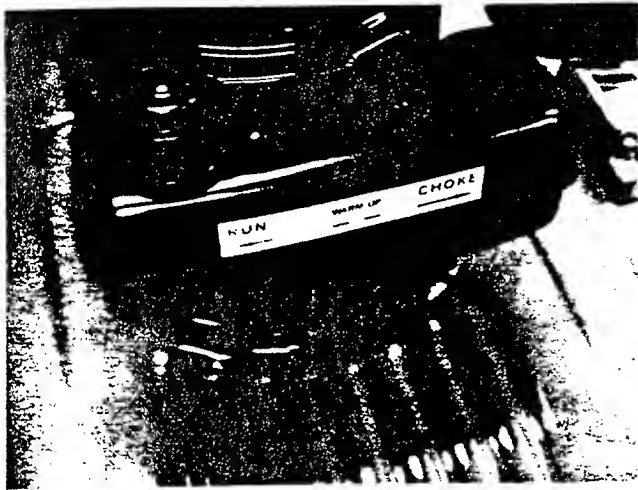

FIGURE 6.
3. Place choke lever, located beneath fuel tank in choke position. See figure 6.